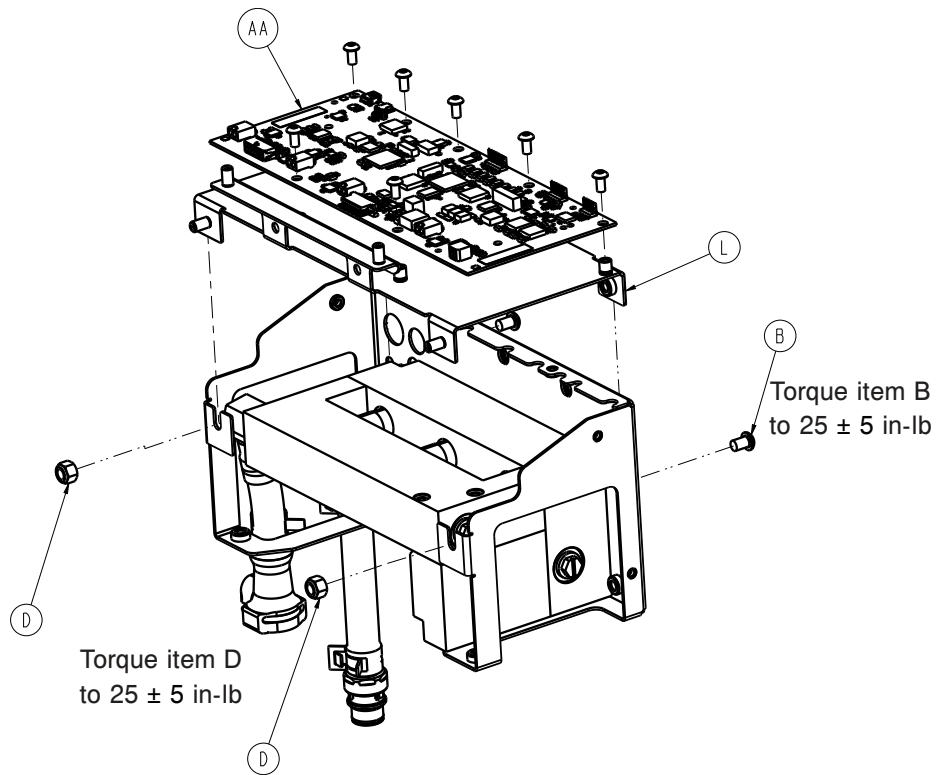

Figure 40 – MCB bracket
15. Using a T27 Torx driver, remove the two screws (B) (Figure 40) that secure the MCB bracket to the control assembly bracket. Save the screws.